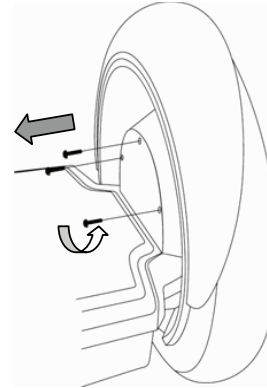

Figure 1. Remove Gearbox Cover
2. Using a 4 mm hex wrench, remove the three fasteners that attach each Gearbox Cover and put them in a safe place. See **Figure 1**.